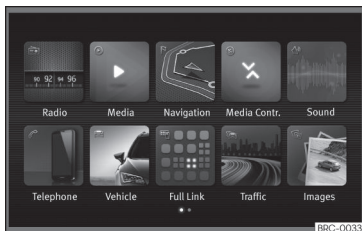

Fig. 42 Easy Connect: Main menu.
- Press the Infotainment button **(MENU)** and then the **Vehicle** function button >>> Fig. 42.